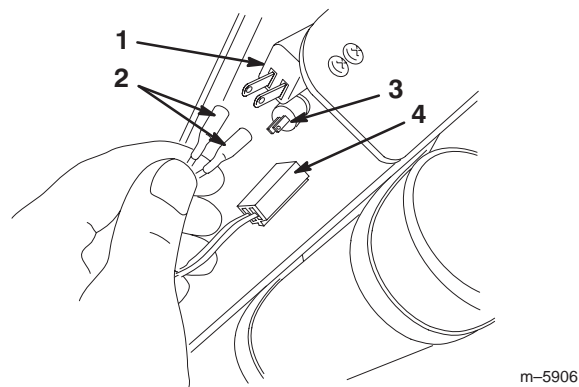

Figure 4
4. Connect the right-angled insulated terminals to the switch (Fig. 4).
5. Connect the terminal to the key switch (Fig. 4).